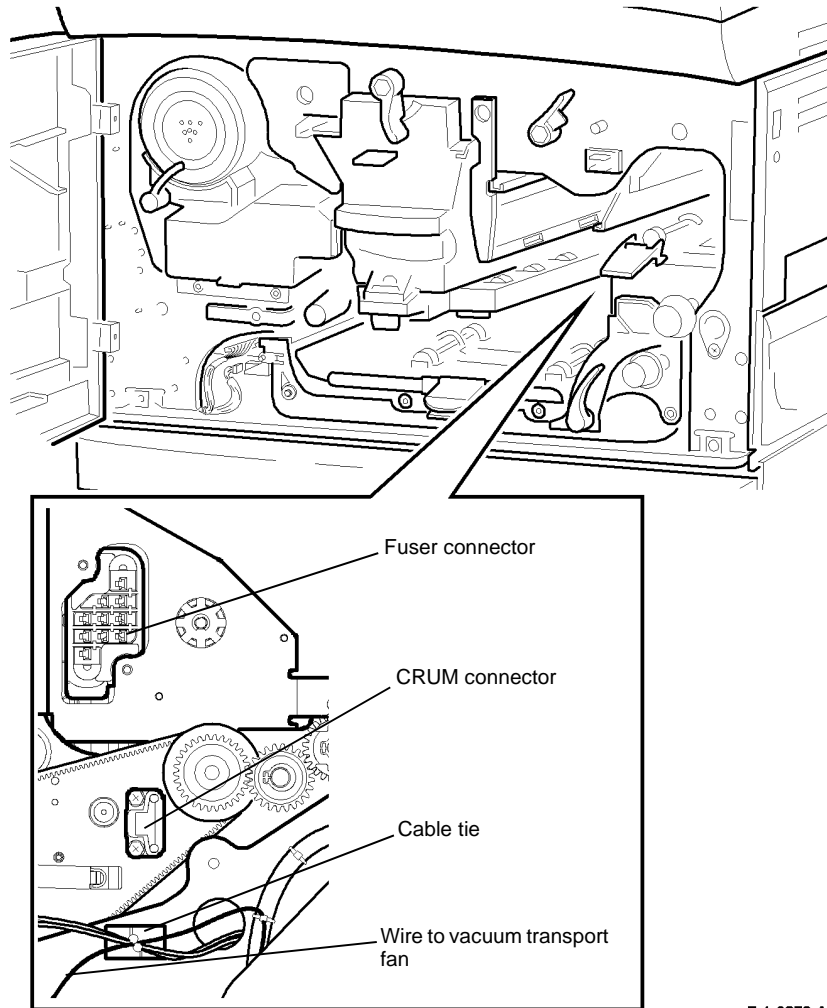

Figure 1 Fuser and CRUM connector
2. Check that the wires from the vacuum transport fan have not been trapped in the fuser CRUM socket, Figure 1. Repair the wiring or install a new short paper path assembly, PL 10.25 Item 1. Use a cable tie to route the wires away from the fuser module.